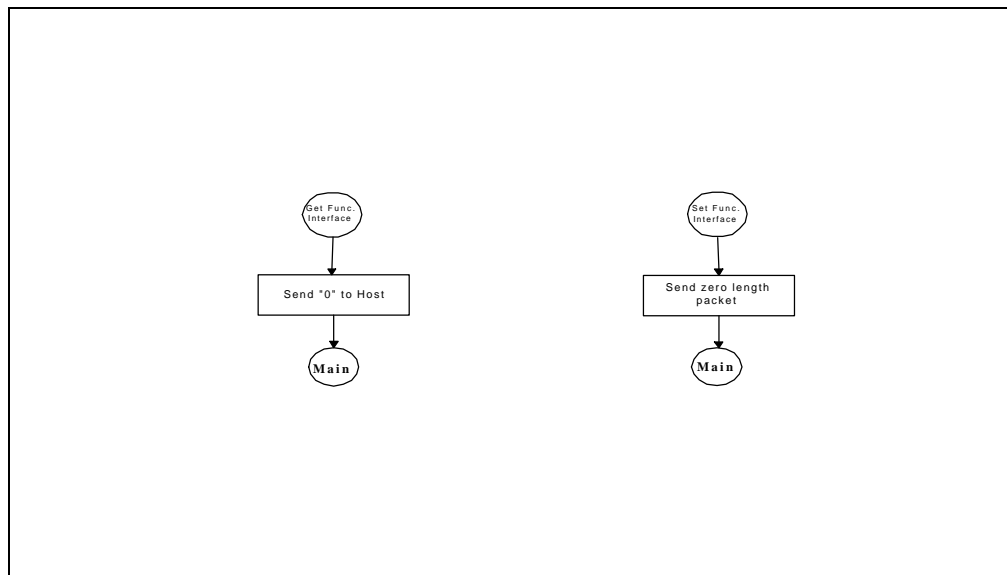

Figure 32: Embedded Function Get/Set Interface Standard Command
- Get Function Interface (Figure 32)
- Set Function Interface (Figure 32)